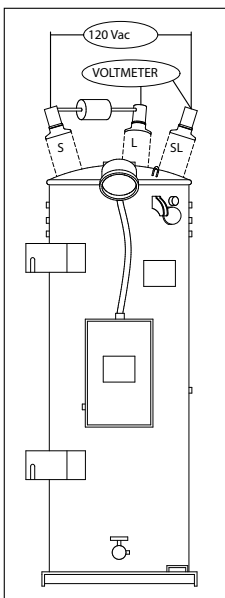

Figure 1. Ratio test connections.
2. Connect a voltmeter between the Load (L) and Source Load (SL) bushing terminals.
3. Use a variac to apply 120 Vac between the source (S) and SL bushing terminals, as shown in Figure 1.